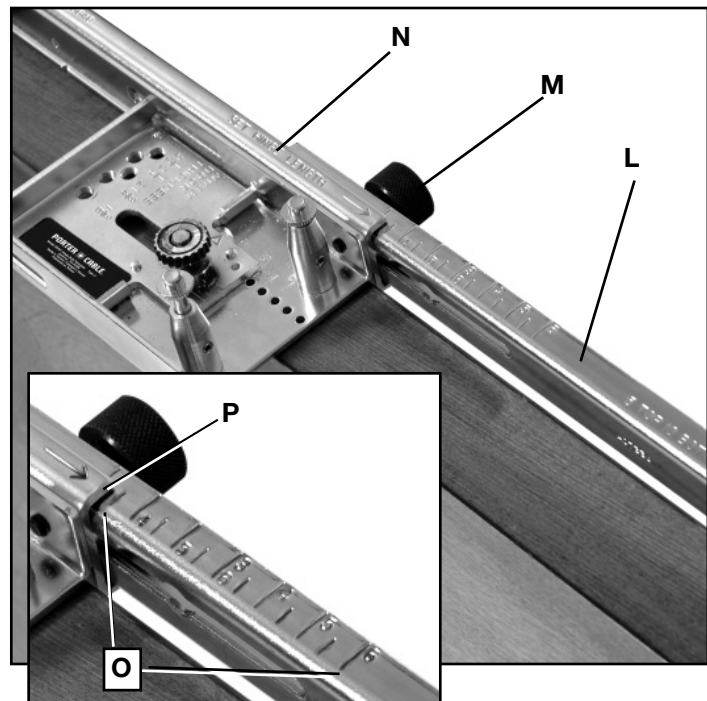
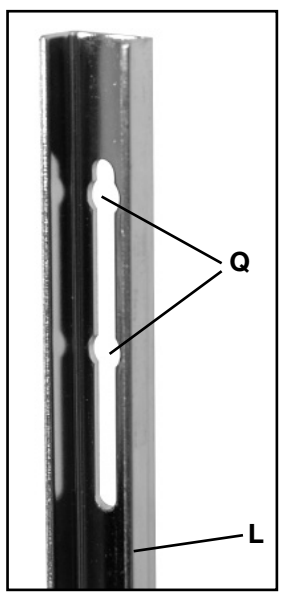

Fig. 4
Fig. 5
- Attach the rail (L) Fig. 4 with rail adjusting thumb screw (M) to right end of the template section (N) which has been nailed to door. Before tightening screw (M), adjust rail (L) so the 3 1/2" graduation line on the "5 TOP 10 BOTTOM" scale (as shown at (O), Fig. 4 inset), lines up with the end (P) of template section (N).
NOTE: There are recesses (Q) Fig. 5 in the rail (L) for the 3 1/2" hinge size. When sizing for 3 1/2" hinges, be sure the plunger in the thumb screw (M) Fig. 4 locates in the recess to help prevent movement.